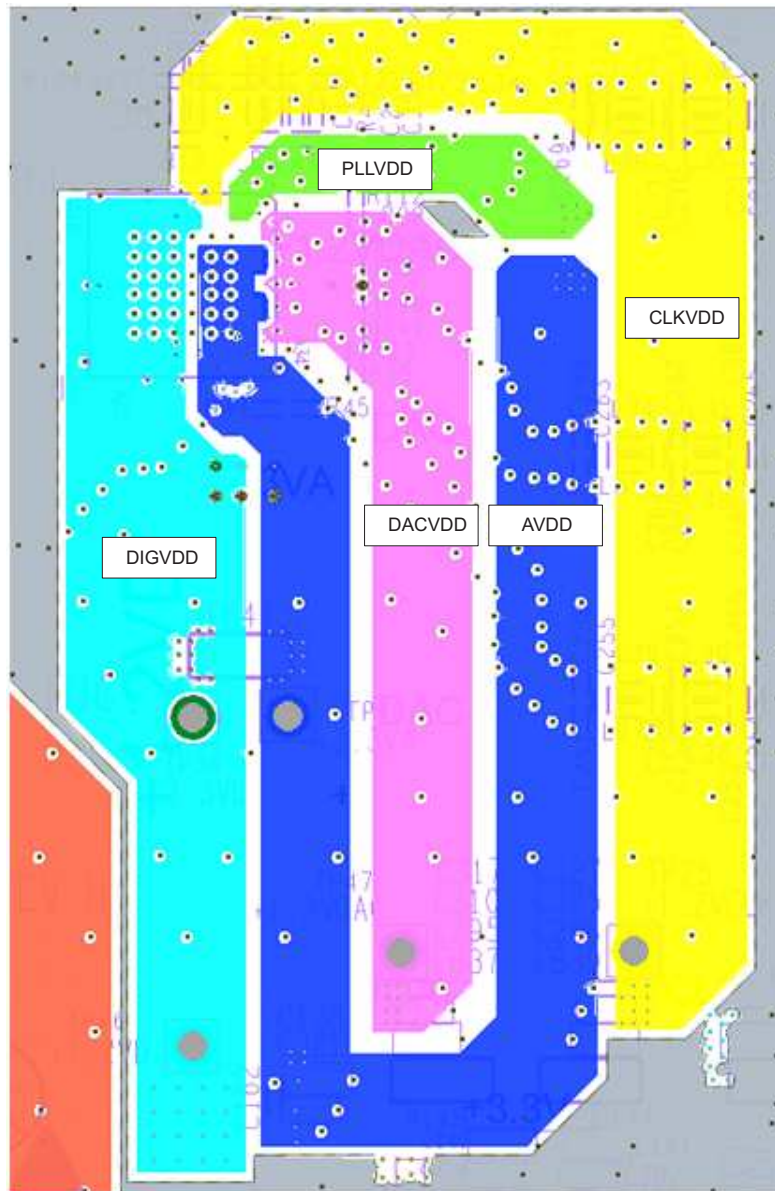
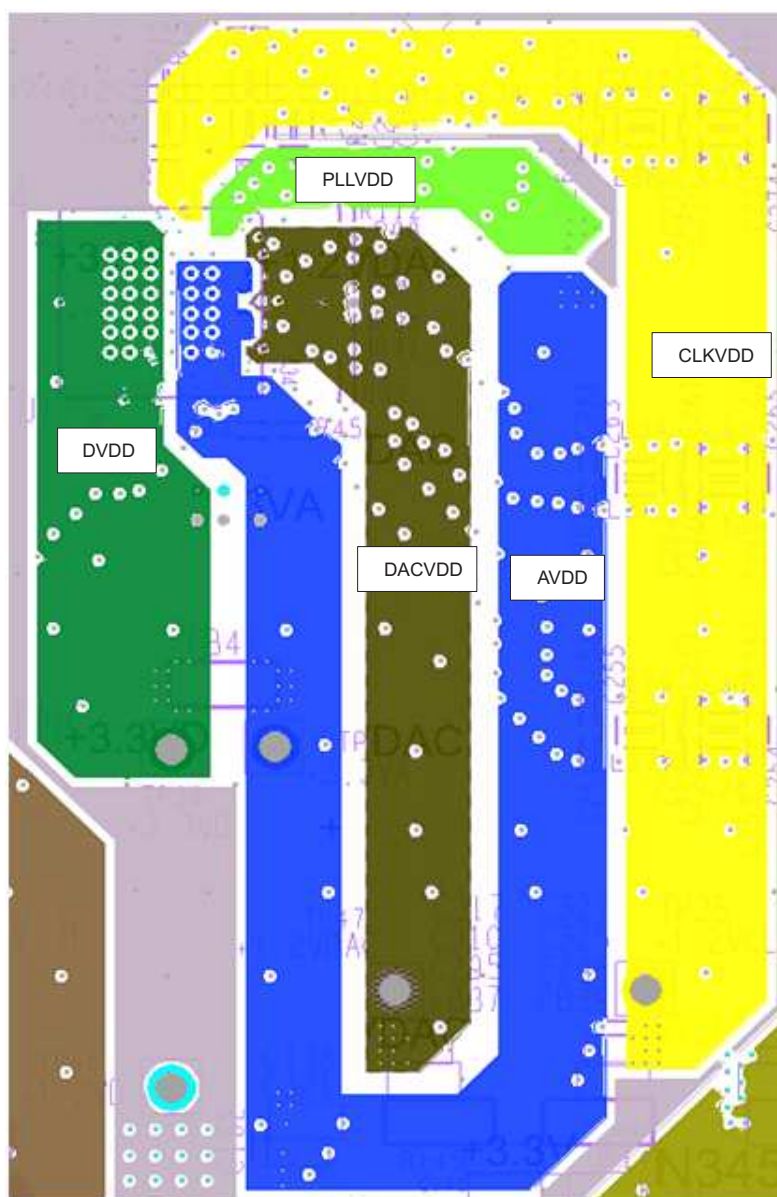

图 101. Third Layer of DAC3484 Layout Showing Power Layers. Layout Example from DAC3484EVM Rev H
图 102. Fourth Layer of DAC3484 Layout Showing Power Layers. Layout Example from DAC3484EVM Rev H
The following layout guidelines correspond to the layouts shown in 图 101 and 图 102.
2. As shown in 图 101 and 图 102, both layers three and four are designated for power supply planes. The DAC analog powers are all in the same layer to avoid coupling with each other, and the planes are copied from layer three to layer four for double the copper coverage area.